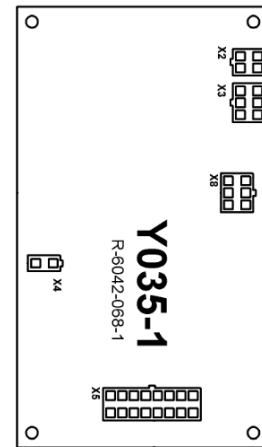

Figure 6 – Motor Control board plugs locations
4. Unplug the connectors **X2**, **X3**, **X4**, **X5** and **X8** from the motor control board. See **Figure 6** for plugs locations.